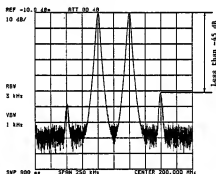

Fig. 12-36 Spurious response two signal distortion test
- (4) Update the panel setup on the instrument as follows, and check to make sure that the two-signal distortion level is within the specification when the difference in the two signal frequencies is 50 kHz: (Fig. 12-36)